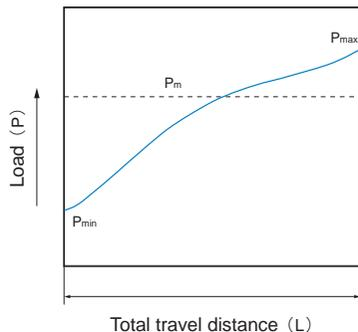

Fig.19 Similar Straight Line's Load
Similar straight line(Fig.19). Average Load can be calculated by using equation (13).